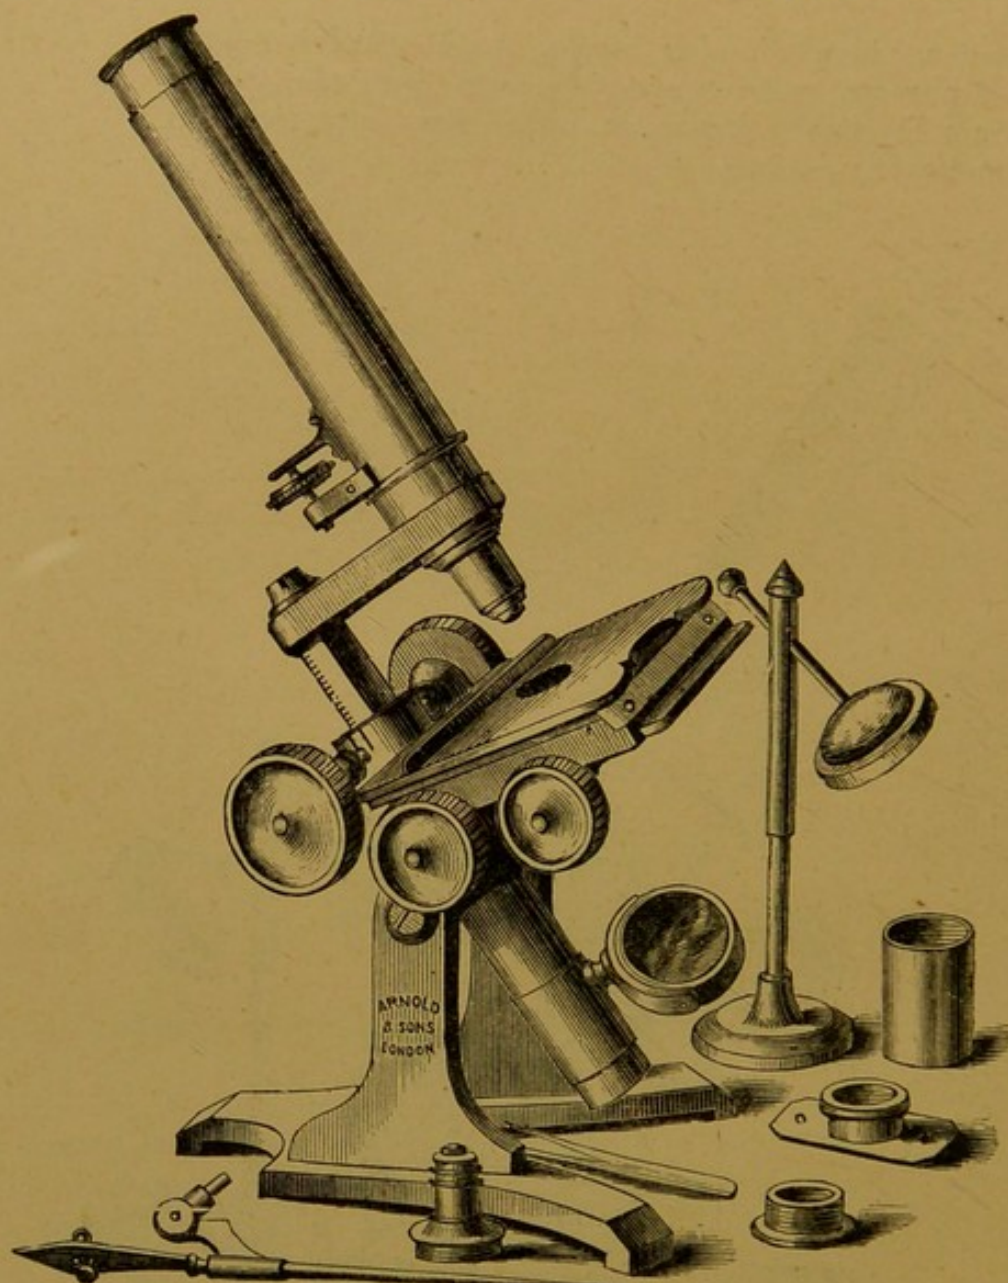

Fig. 354.
- No. 8. Improved Microscope (Arnold & Sons'), with coarse and fine adjustments, solid brass stand, with rack and rotary stage, large mirror, revolving diaphragm, c eye-piece, $\frac{1}{4}$ -inch and 1-inch best achromatic object glasses, stand condenser, live box, stage and dissecting forceps, in mahogany cabinet, complete, Fig. 354 £9 9 ⁰⁰/₁₀₀